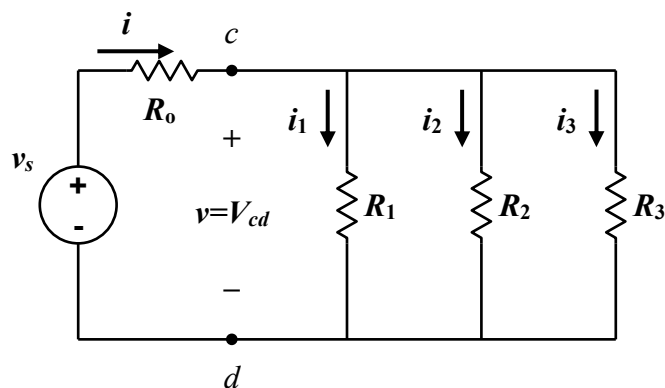

Figure 2.4a
16. Construct the circuit shown in **Figure 2.4a** with $R_0 = 470 \Omega$, $R_1 = 680 \Omega$, $R_2 = 1.0 \text{ k}\Omega$ and $R_3 = 3.0 \text{ k}\Omega$. Resistor R_0 is used to control current; you do not need an exact measurement, but use the 470- Ω resistor.